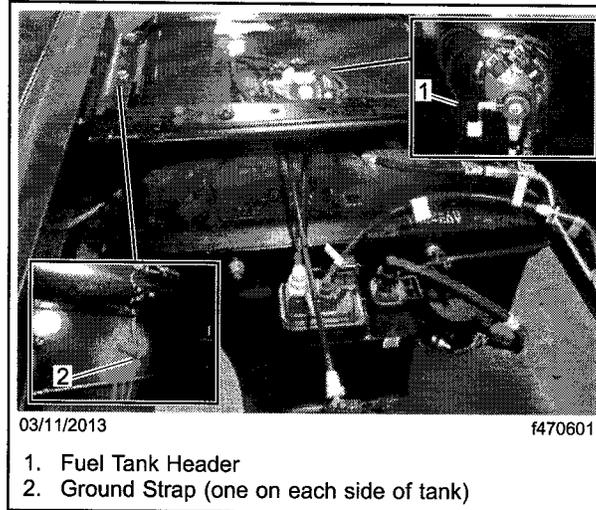

Fig. 1, Fuel Tank Electrical Connections and Hoses
9. Disconnect the electrical connections on the fuel tank header. See **Fig. 1**.
11. Push the secondary clips in to disengage them from the vent hoses. If the clips fail to release, blow any debris out of the release mechanism and repeat the process. Once the secondary clips have been removed, disconnect the fuel and vent hoses. See **Fig. 1**.